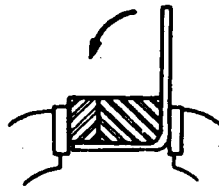

Fig. 3
2. Use accessories when necessary (Figs. 3, 4, and 5).